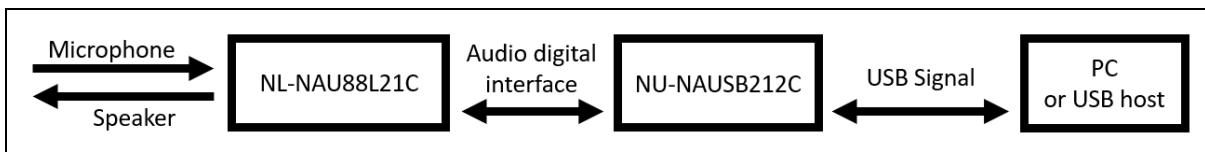

Figure 2-5 Signal Path of NU-NAUSB212C and NL-NAU88L21C
3. CN2 of NU-NAUSB212C uses USB Cable to connect to a PC under Windows system. (If possible, please do not connect to the PC through USB HUB). Figure 2-5 shows the audio signal path after the two boards are connected to each other.